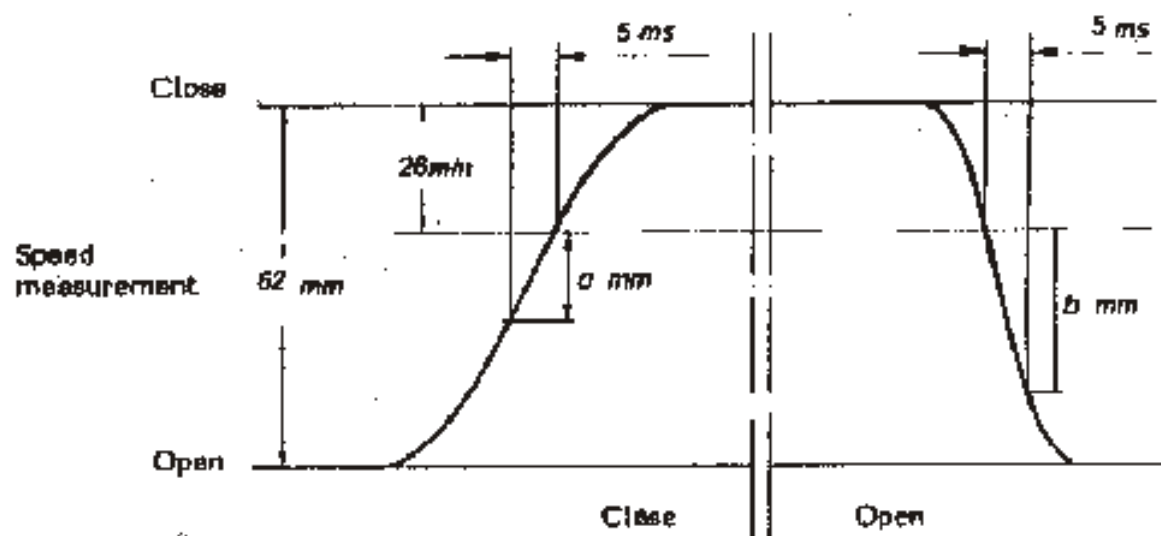

Fig 17
- 3) Adjust the oscilloscopes input to 85mm, see figure 17.
- 4) Make an opening operation. The curve on the oscilloscope should be as shown in figure 17.